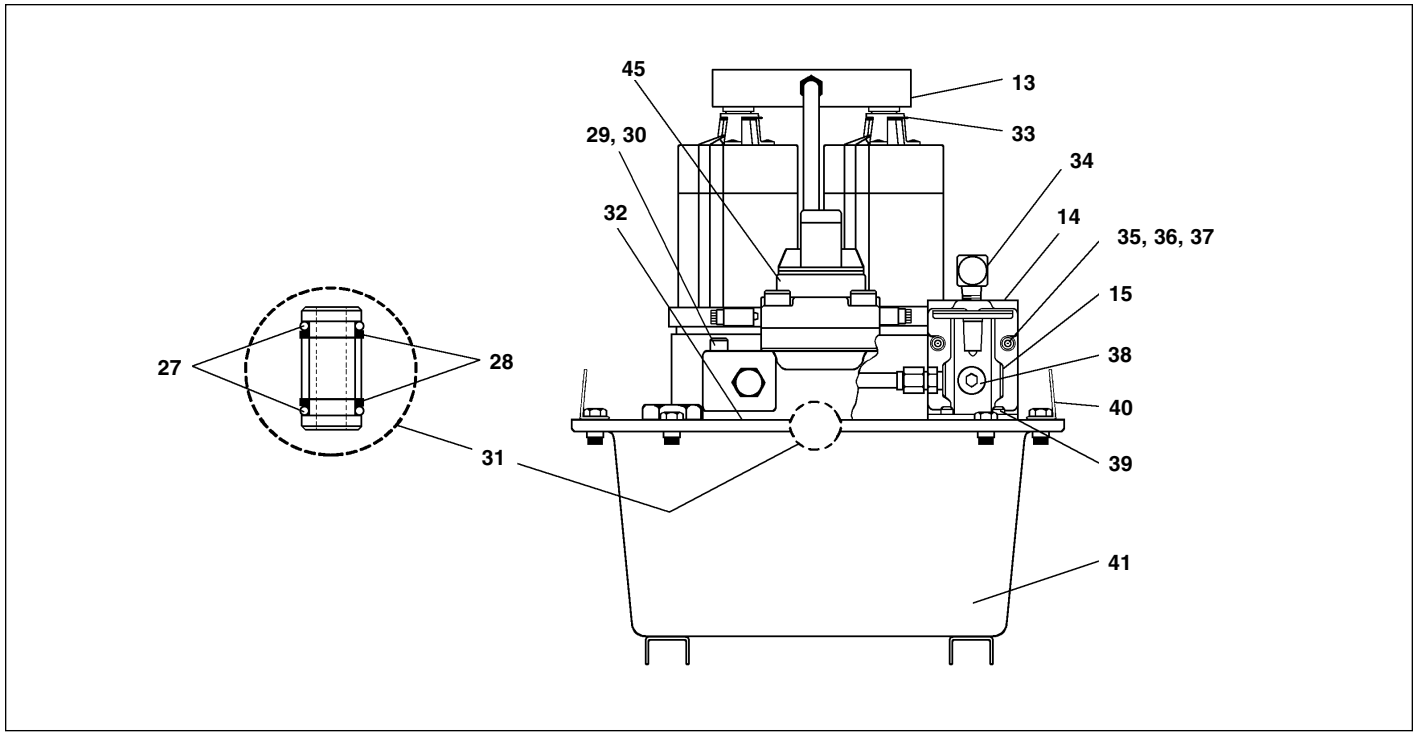

Figure 3, Grill and Cover Removed
**Repair Parts List for Figure 3**